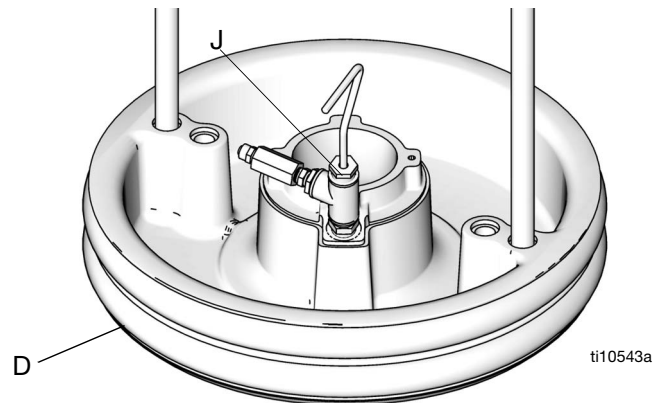
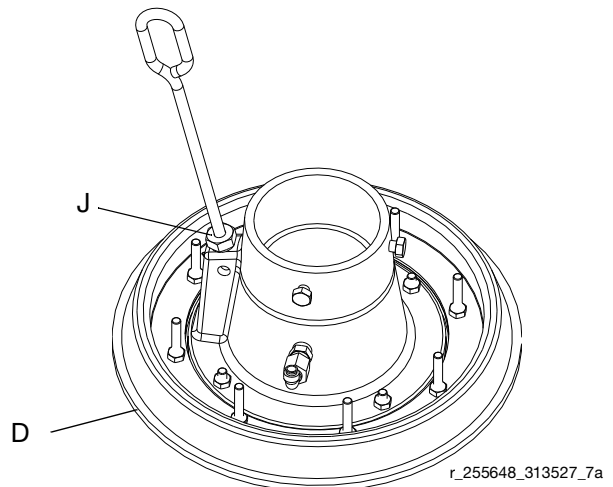

FIG. 19: D200 and D200s 6.5 in. Dual Post
FIG. 20: S20 and D60 3 in. Single Post
8. Inspect platen seals (D) for damage and lubricate with grease or other lubricant compatible with the fluid to be pumped. See FIG. 19 and FIG. 20.
12. Put a full drum of material on the ram base, slide it back against the drum stops, and center it under the platen (D). Drum styles vary, so the drum may not be perfectly centered when positioned against the drum stops. An optional drum roller kit is available for D200 and D200s supply systems to make it easier to load the drum on the base. Order Kit 255627.
14. Remove bleed stick from platen bleed port (J).